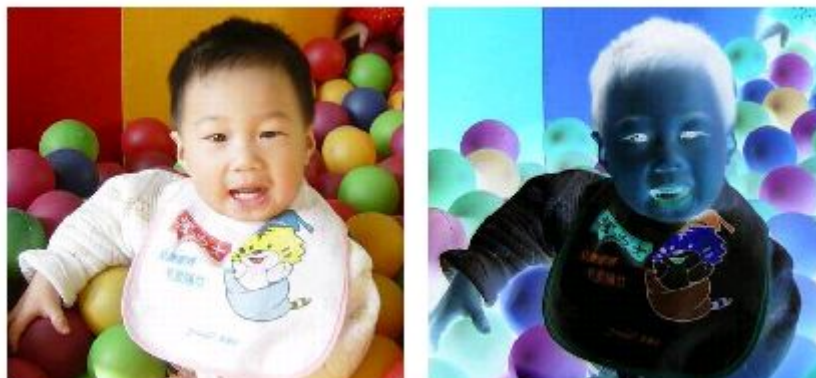

Figure 4-53 Invert Effect (Left is original.)
- Invert:** run negative effect on photos (Figure 4-53)